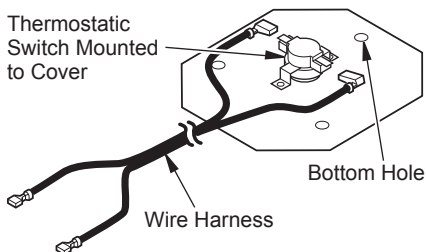

Figure 20 - Attaching Wire Harness to Thermostatic Switch and Cover Assembly
12. Locate thermostatic switch/cover plate assembly and wire harness supplied with blower. Attach wire harness terminals to terminals on thermostatic switch. Push firmly. Make sure the bottom hole of cover is on the opposite side from the wire harness (see Figure 20).